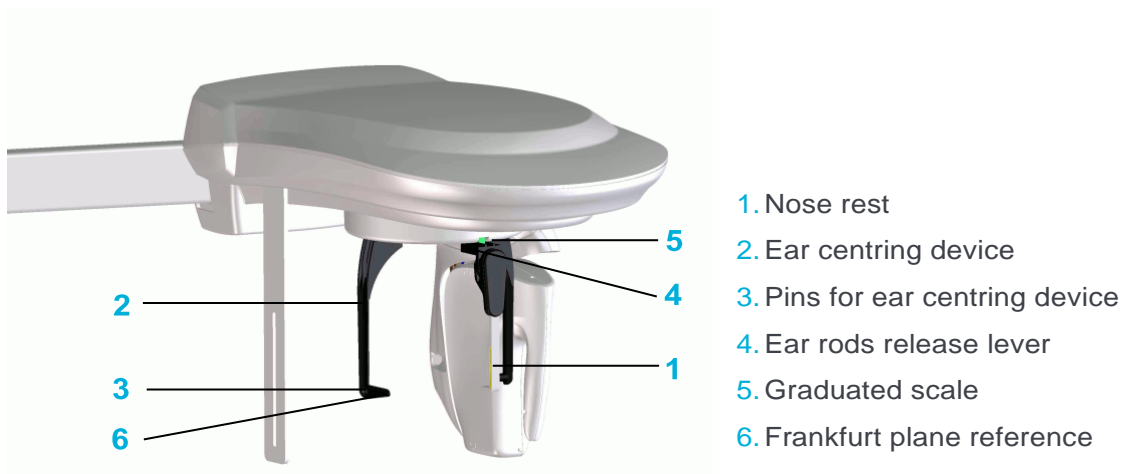

Figure 35
4. Move the nose rest away outwardly to its maximum extension. Manually rotate the head positioning device according to the cephalometric projection to be made (AP or LL), by rotating the upper part of the ear centring device (Figure 35).